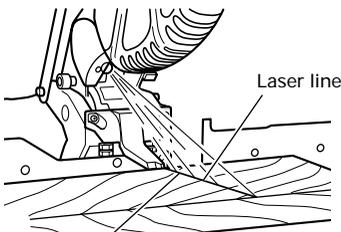

Fig. 12
- Check and make sure on a periodic basis if the position of the laser line is in order. As regards the checking method, draw a right-angle ink line on the workpiece with the height of about 38 mm and the width of 89 mm, and check that the laser line is in line with the ink line [The deviation between the ink line and the laser line should be less than the ink line width (0.5 mm)] (Fig. 12).